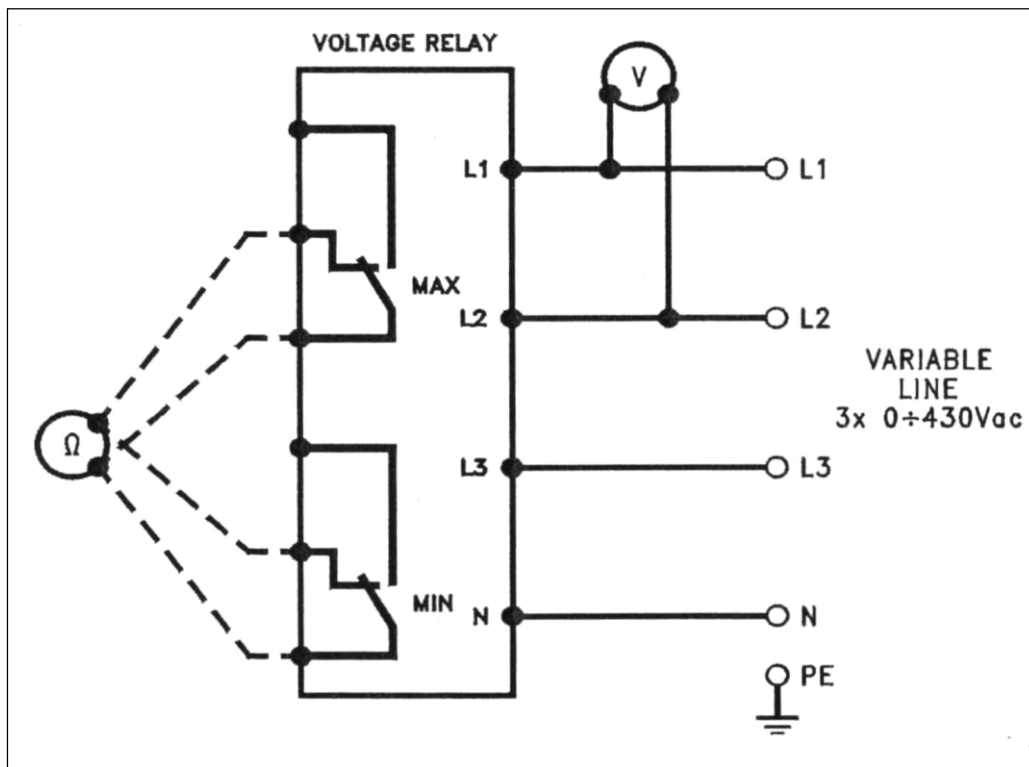

Figure 2-4: Connection Diagram for Testing a Maximum and Minimum Voltage Relay with Fixed Time in Three Phase Line
1. Follow the electrical diagram of Figure 2-4.